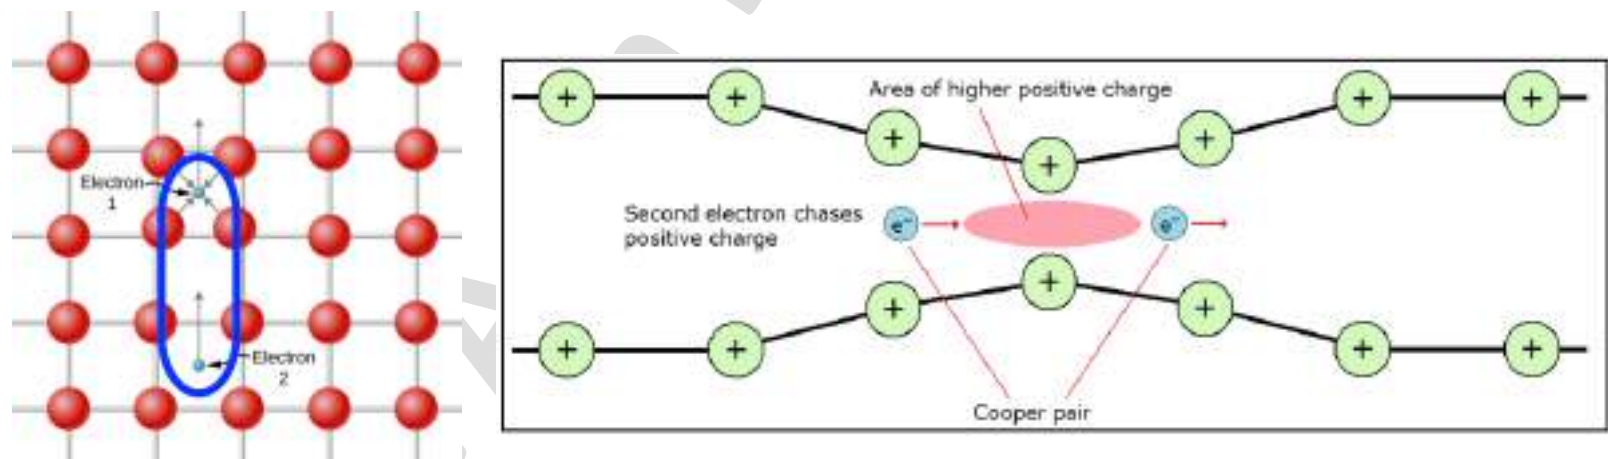

Fig. 3: a) Formation of Cooper pairs b) Electrons coupled through a phonon is called a Cooper pair.
- As shown in Fig. 3, electron 1 slightly displaces the positively charged atomic nuclei toward itself as it travels past because of the Coulomb attraction.